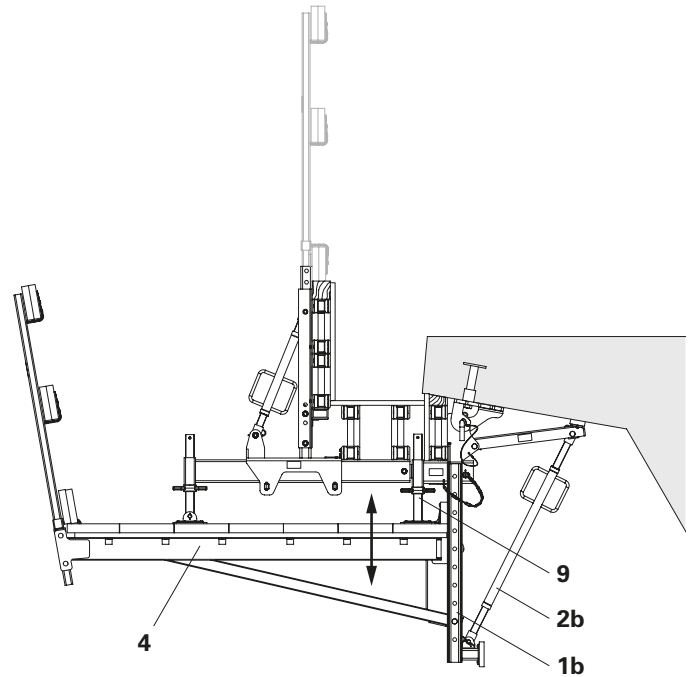

Fig. A4.02
- Platform Cantil. Beam VGK 170 (**4**) is connected to the holes on Bracket Post VGK 110 (**1b**) according to the dimensions of the cantilevered parapet. (Fig. A4.02)